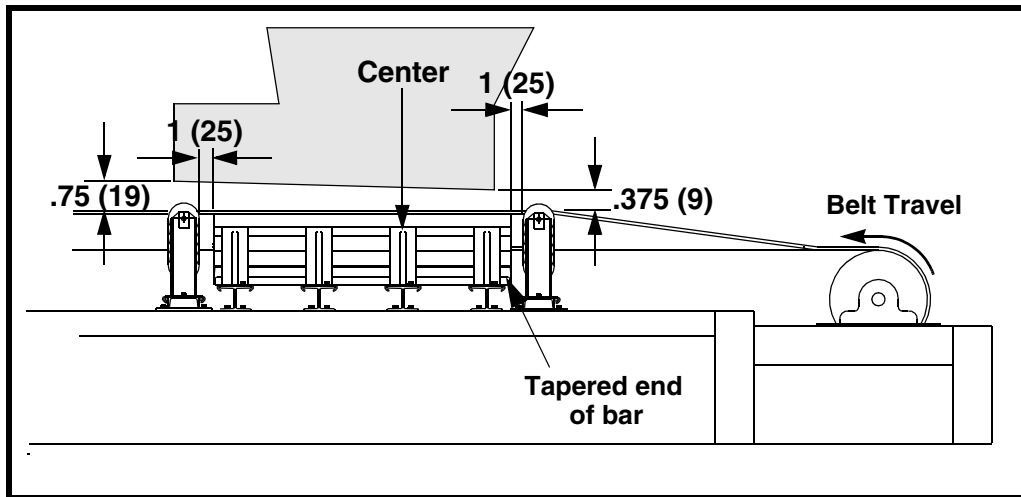

Figure 1. Measuring for Martin[®] Impact Cradles
1. See Figure 1. Make sure chute walls and/or wear liners are correct distance above belt as shown. If necessary, modify chute walls and/or wear liners.